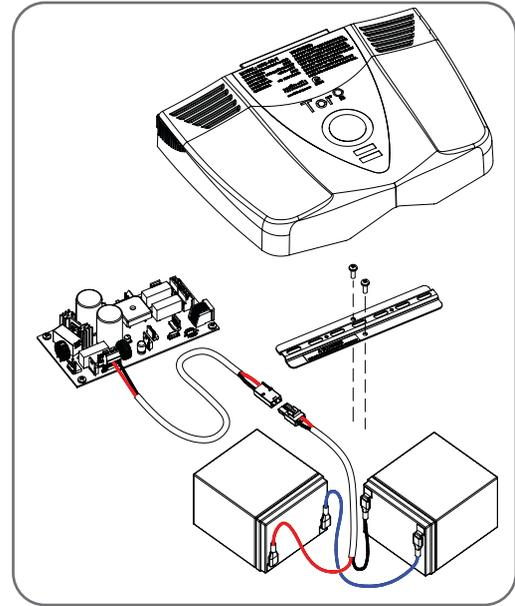

Fig 16.1
- Remove the batteries and replace with the same type (Fig. 16.1).